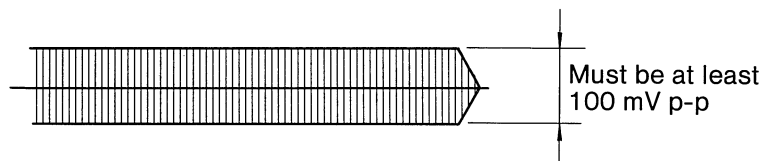

Figure 4-16. Read Waveform Diagram
- (1) Remove the CE disk and load the inspection disk.
- (2) Connect an oscilloscope.
- (3) Turn the power on.
- (4) Seek to track 79 and write data.
- (5) Seek to track 00, then seek to track 79.
- (6) Check the read waveform (see Figure 4-16).